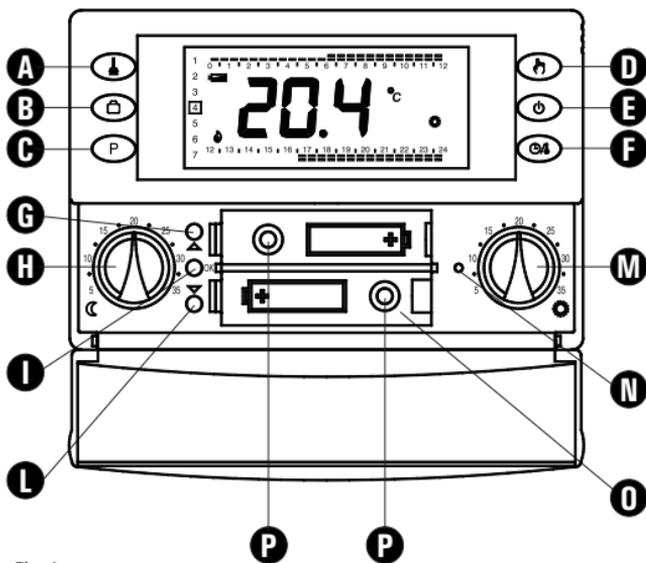

Fig. 1
4. Solo nel caso in cui il cronotermostato non risponda correttamente eseguire un reset tramite il tasto indicato in **N** di Fig. 1; **NON USARE AGHI O STRUMENTI CHE POSSANO DANNEGGIARE IRREPARABILMENTE IL CRONOTERMOSTATO.**
When starting up for the first time open the battery lid and insert the batteries in the battery compartment **O** in Fig. 1, observing the polarities indicated. The batteries must be alkaline 1.5V type AA.
If necessary carry out a reset operation by inserting a pointed object through the hole provided (**N** in Fig. 1); **DO NOT USE NEEDLES OR TOOLS THAT COULD IRREPARABLY DAMAGE THE CHRONOSTAT.**
'**OK**': For programming the time and current day of the week (**I** in Fig. 1);
'**▲**': Forward (**G** in Fig. 1);
'**▼**': Back (**L** in Fig. 1);
The Comfort temperature is set by means of the '🔧' knob (M in Fig. 1) whereas the Economy temperature is set by means of the '🌙' knob (H in Fig. 1).
5. Insert the batteries in the battery compartment (O in Fig. 1); see paragraph 'HOW TO INSERT/REPLACE THE BATTERIES'.